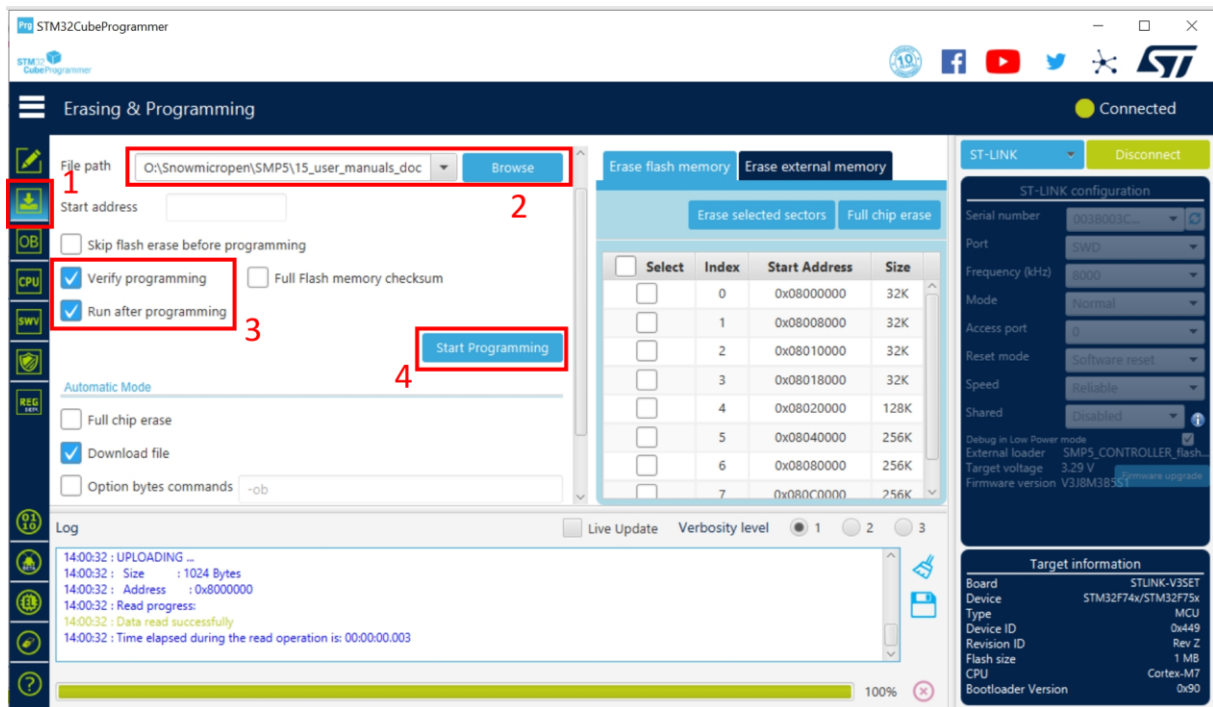

Figure 40: STM32CubeProgrammer software to upload the firmware to the SMP controller unit.
- Change to the “Erasing & Programming” menu as shown in Figure 40, indicated by 1
- Browse the new firmware file you want to upload to your SMP controller unit, as shown in Figure 40, indicated by 2
- Tick options accordingly to Figure 40 indicated by 3
- Upload the firmware by confirming the settings with the button “Start Programming” as it is shown in Figure 40, indicated by 4